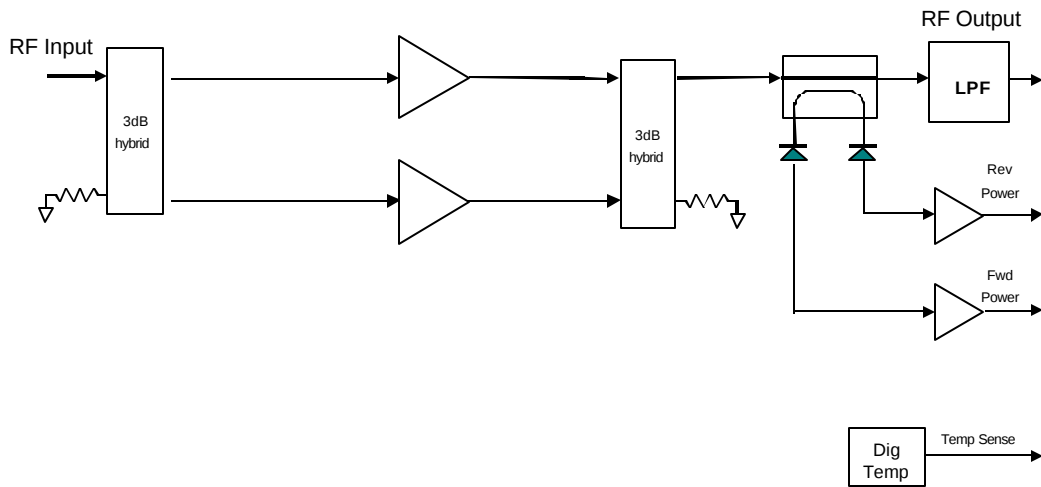

Figure 1-17. RF Power Amplifier Block Diagram
The Power Amplifier (PA) is a separate module that is mounted to a heat sink and is fan-cooled for reliable operation (see Figure 1-17). The PA is a design for maximum linearity in an amplitude modulation-based system. The “divide and combine” design is inherently stable and well matched even when looking at an adverse antenna impedance mismatch. The amplifier utilizes gain modules that are easily replaceable, and if one amplifier does fail, the link will still perform at a reduced power level. This provides a built-in redundancy for the PA, which is traditionally the weak link of any microwave radio system.